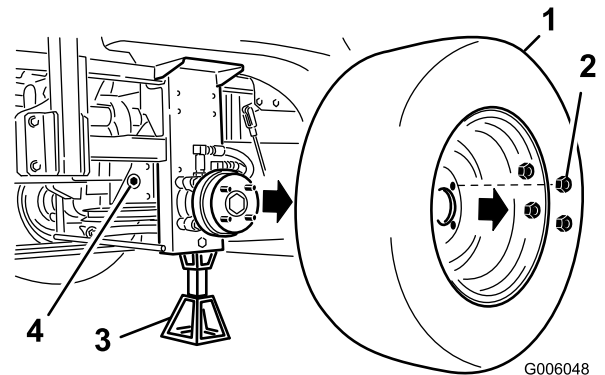

Figure 54
7. Locate the hole in the frame and remove the side plug in the gear box. (Figure 54).